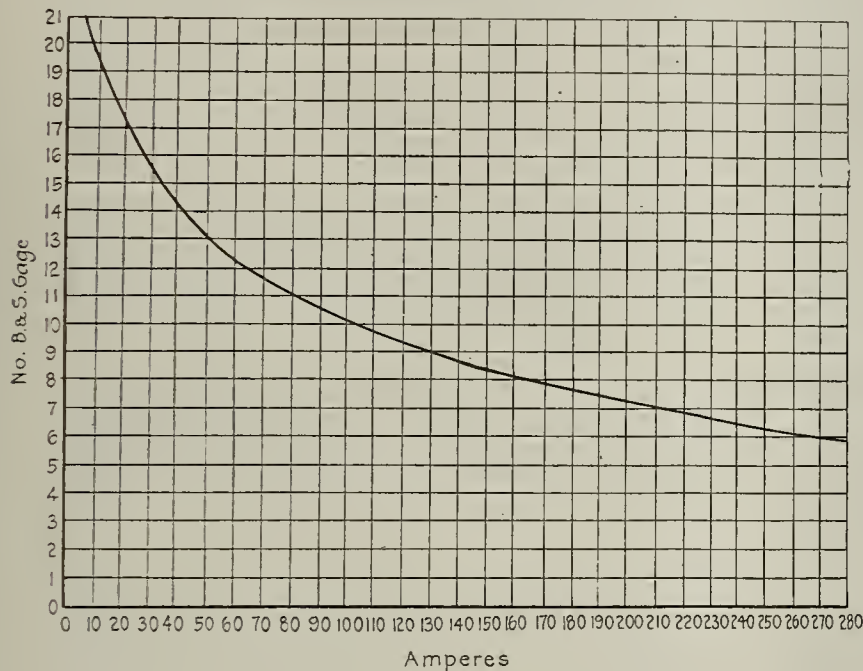
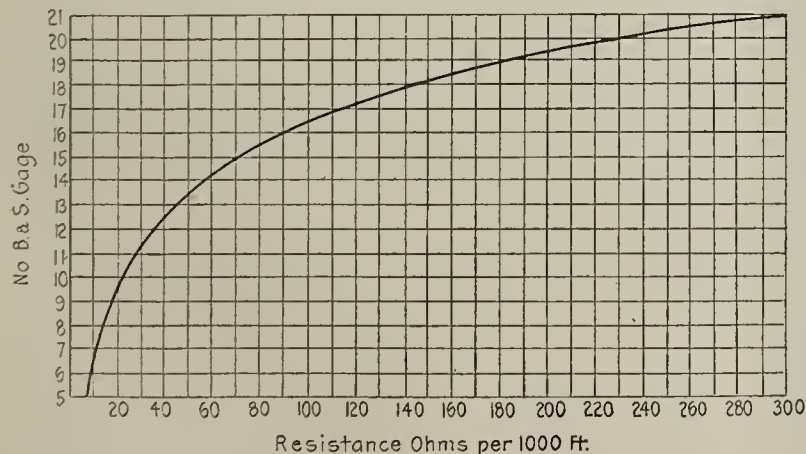

Fig. 3
Fig. 4
Steps 1 to 5 inclusive must have a carrying capacity of 60 amperes and from the curve, Fig. 3, it is found that No. 12 wire has a carrying capacity a little in excess of this figure. Both Figs. 3 and 4 relate to German silver resistance wire. From Fig. 4 it is found that the resistance of No. 12 wire is 35 ohms per thousand feet or .035 ohms per foot. The sixth
step must have a carrying capacity of  $I_{min}$  or 40 amperes, and by reference to Fig. 3 it will be found that No. 14 wire is required, which has a resistance, by Fig. 4, of 55 ohms per thousand feet or 0.055 ohms per foot. Unit 7 must carry 20 amperes, and from curve Fig. 3, it is found that No. 17 wire is required, which has a resistance of 115 ohms a thousand feet, or .115 ohms per foot. Dividing the required resistance of each unit by the resistance per foot of its respective size of wire will give the number of feet required for each unit.
**Flat Knot**—The most common knot in use for tying together the ends of two ropes or cords is the flat knot. Figure 3 shows the knot before pulling tight, and clearly indicates its make-up. Figure 4 shows the finished knot. While this knot is safe and excellent for ordinary use, it will jam under a strain, so that it cannot readily be undone.